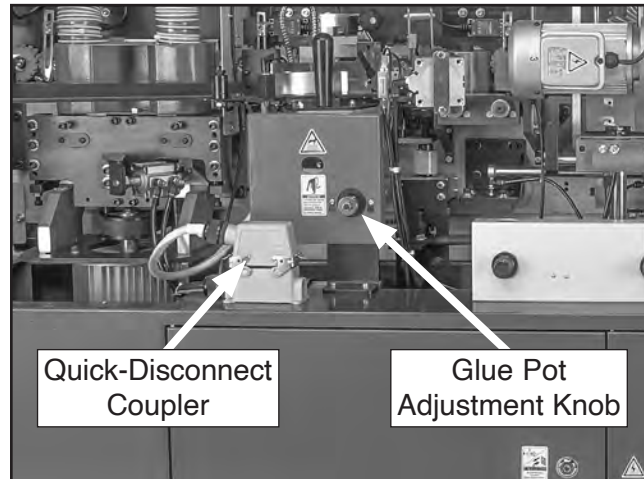

Figure 97. Location of quick-disconnect coupler and glue pot adjustment knob.
3. Connect quick-disconnect coupler (see **Figure 97**).
4. Rotate glue pot adjustment knob all the way *counterclockwise* to adjust glue pot to normal operating position (see **Figure 97**).